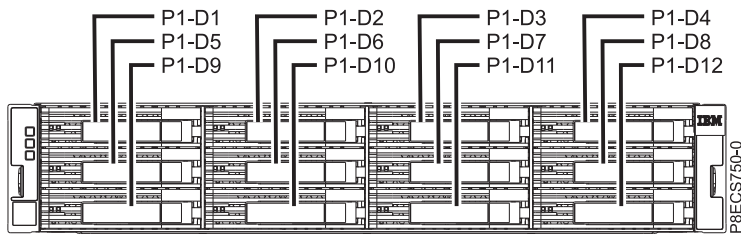
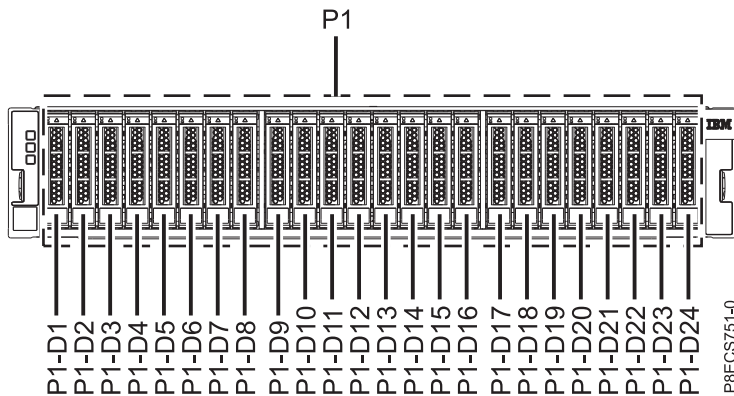
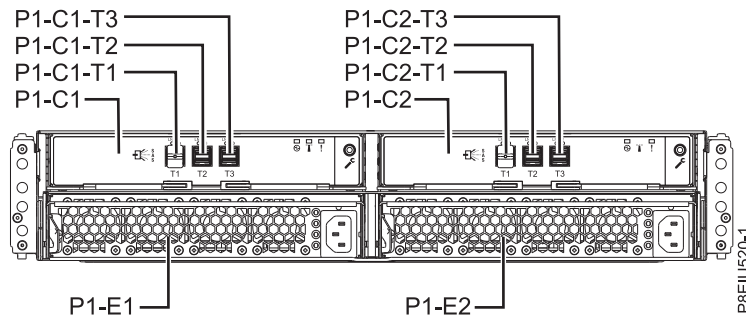

Figure 1. Front view of the ESSL storage enclosure showing the disk drive locations
Figure 2. Front view of the 5147-024 or ESLS storage enclosure showing the drive locations
Figure 3. Rear view of the storage enclosures
1. Identify the part and the enclosure that you want to service. The disk drive and SSD slots are located in the front of the enclosure. Figure 1 shows the front of the ESSL storage enclosure, Figure 2 shows the front of the ESLS storage enclosure, Figure 3 shows the rear view of the storage enclosures, and Figure 4 on page 3 shows the locations of the service indicators for the enclosures.